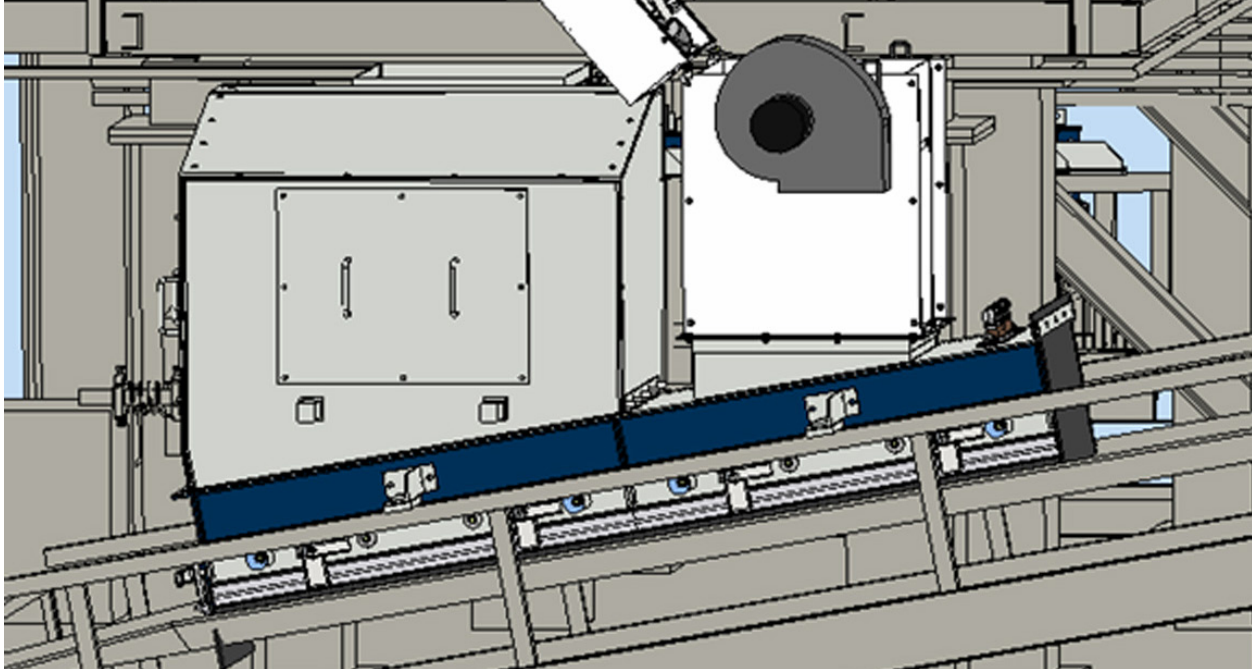
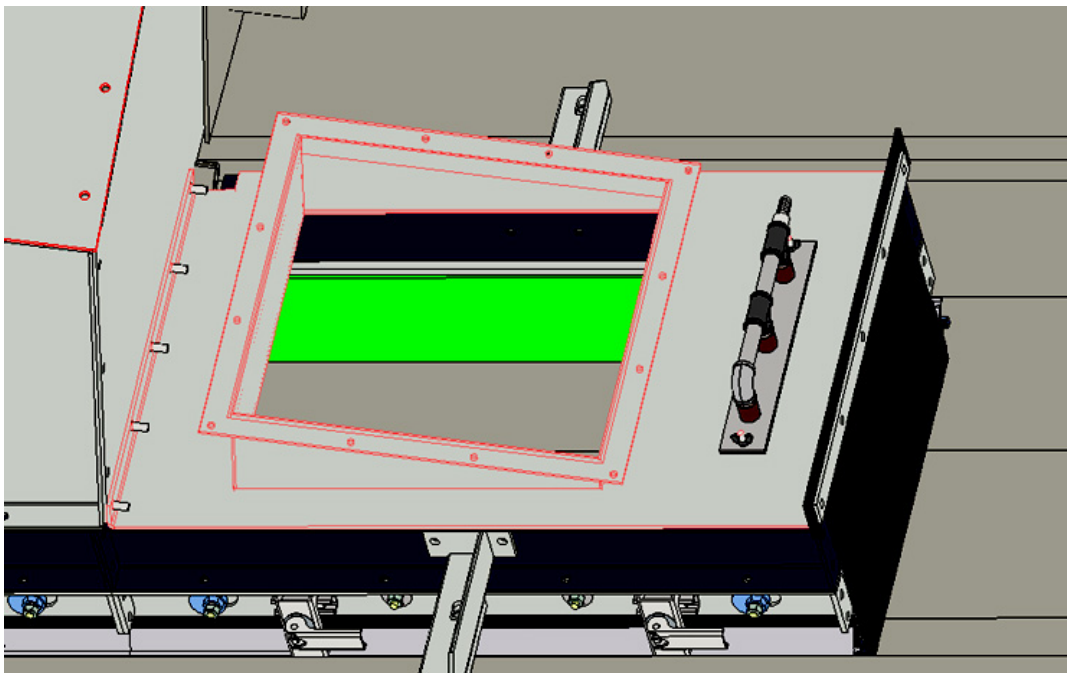

Figure 2
Figure 3
Figure 2 illustrates a typical proper location and installation position for the Benetech MaxZone Safe+™ Dust Collection System, approximately five (5) feet from the transfer point. Other placement and positions may be possible based on specific customer locations. This system is designed to be used in conjunction with the MaxZone® skirtboard system.
With the MaxZone® system properly installed and adjusted per the installation manual. A MaxZone® top cover will be replaced with the Dustinator® Plus mounting cover as shown in Figure 2 below. The Dustinator® Plus adapter cover, is installed directly in place of the existing flat or peaked hood cover as shown in Figure 3 using the 1/2-13 x 1" long cover bolts. This top cover allows direct base flange mounting to the Dustinator® Plus along with the Benetech suppression manifolds.